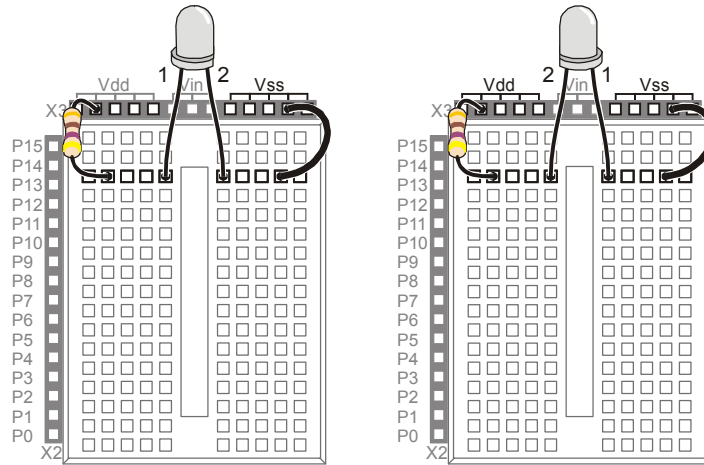

Figure 2-19
Figure 2-19 shows the manual test for the bi-color LED.
- ✓ Build the circuit shown on the left side of Figure 2-19.
- ✓ Modify your circuit so that it matches the right side of Figure 2-19.